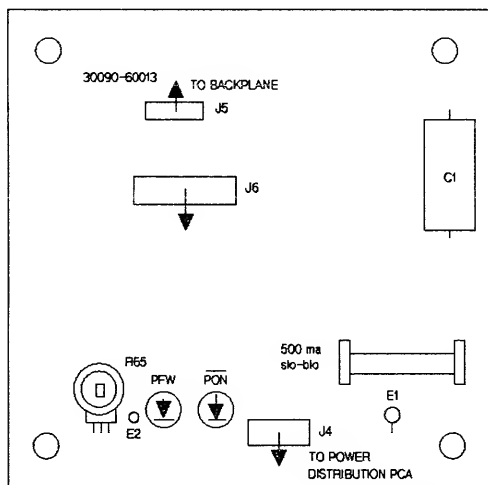

Figure 6-8. Power Control PCA (Series 44/48/58)
1. Rotate potentiometer R65 fully clockwise, shown in Figure 6-8.
2. Jumper test point E2 to E1 (ground), shown in Figure 6-8.